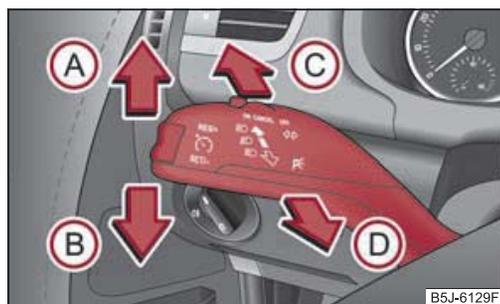

Fig. 39 Turn signal and main beam lever
- Push the lever upwards **(A)** or downwards **(B)** ⇒ fig. 39.